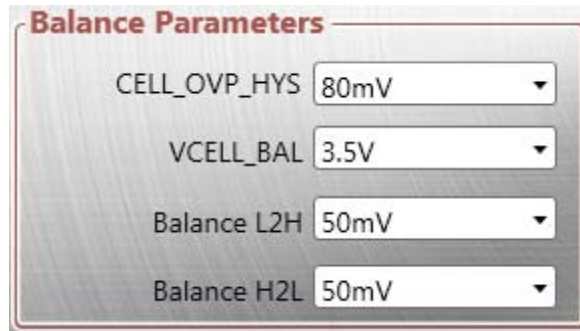

Figure 7: Balance Parameters
4. Set the balance parameters (see Figure 7)
For cell-balance control, connect PMID to the middle pin of the 2-cell battery pack (or 2-battery simulator in series), then check the battery cell balance function (see Figure 7).
- Monitor the registers to obtain the MP2672A’s operation status and fault report (see Figure 7).